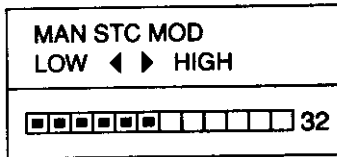

Figure 1-9 Dialogue for manual adjustment of STC
1. Press the [STC] key to display the dialogue shown in Figure 1-9.